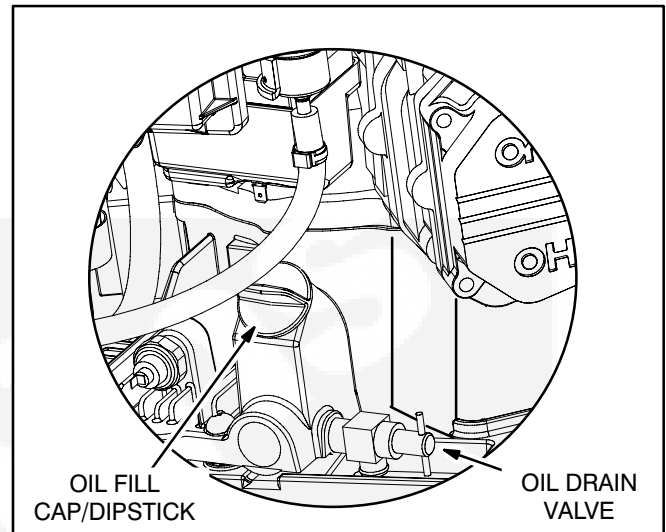

FIGURE 11. OIL FILL/DIPSTICK AND DRAIN VALVE
1. Unscrew the oil fill cap and wipe oil off the dipstick (Figure 11). Screw the cap back on, remove it and check the oil level on the dipstick.
2. Remove the oil fill cap, open the oil drain valve (Figure 11), let all oil drain from the engine and then close the drain valve.